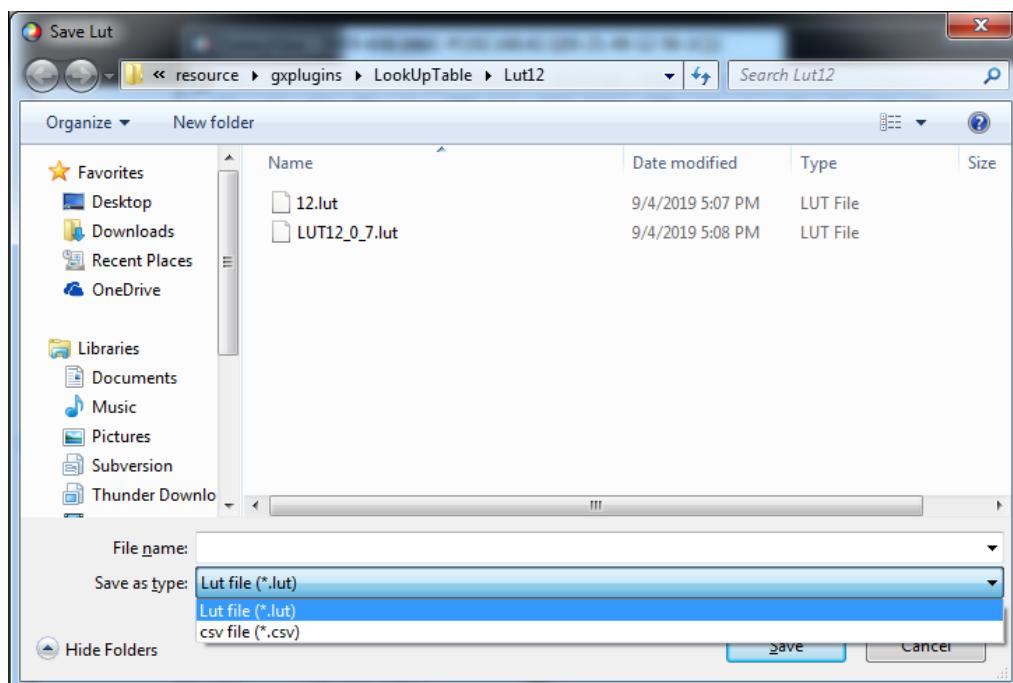

Figure 9-11 Save to file
- When selecting "Save to File", the current Lut data can be saved to the file. The saved file contains two formats: Lut and csv, as shown in Figure 9-11: